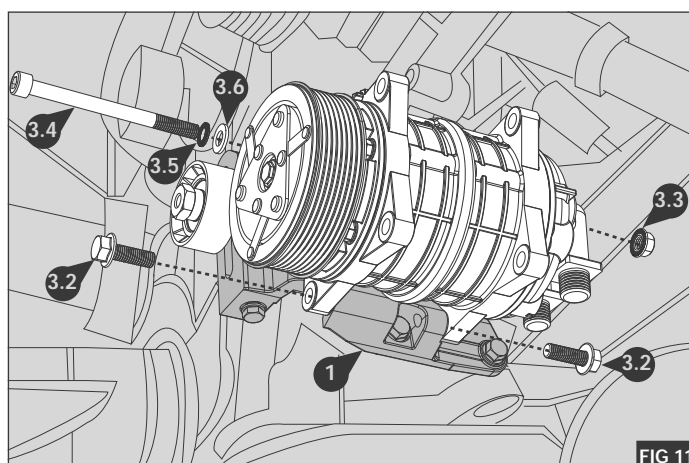

FIG 11
3. Using a suitable tool rotate the automatic belt tensioner to release the tension and remove the original manufacturers drive belt (A) taking care to check the direction of rotation and noting the original routing, if different from the diagram shown in Fig.11 report your findings to your Kit/System supplier before proceeding - Fig 1
1. Remove the compressor manifold and fit the supplied inverted manifold (5) to the compressor - Fig 11